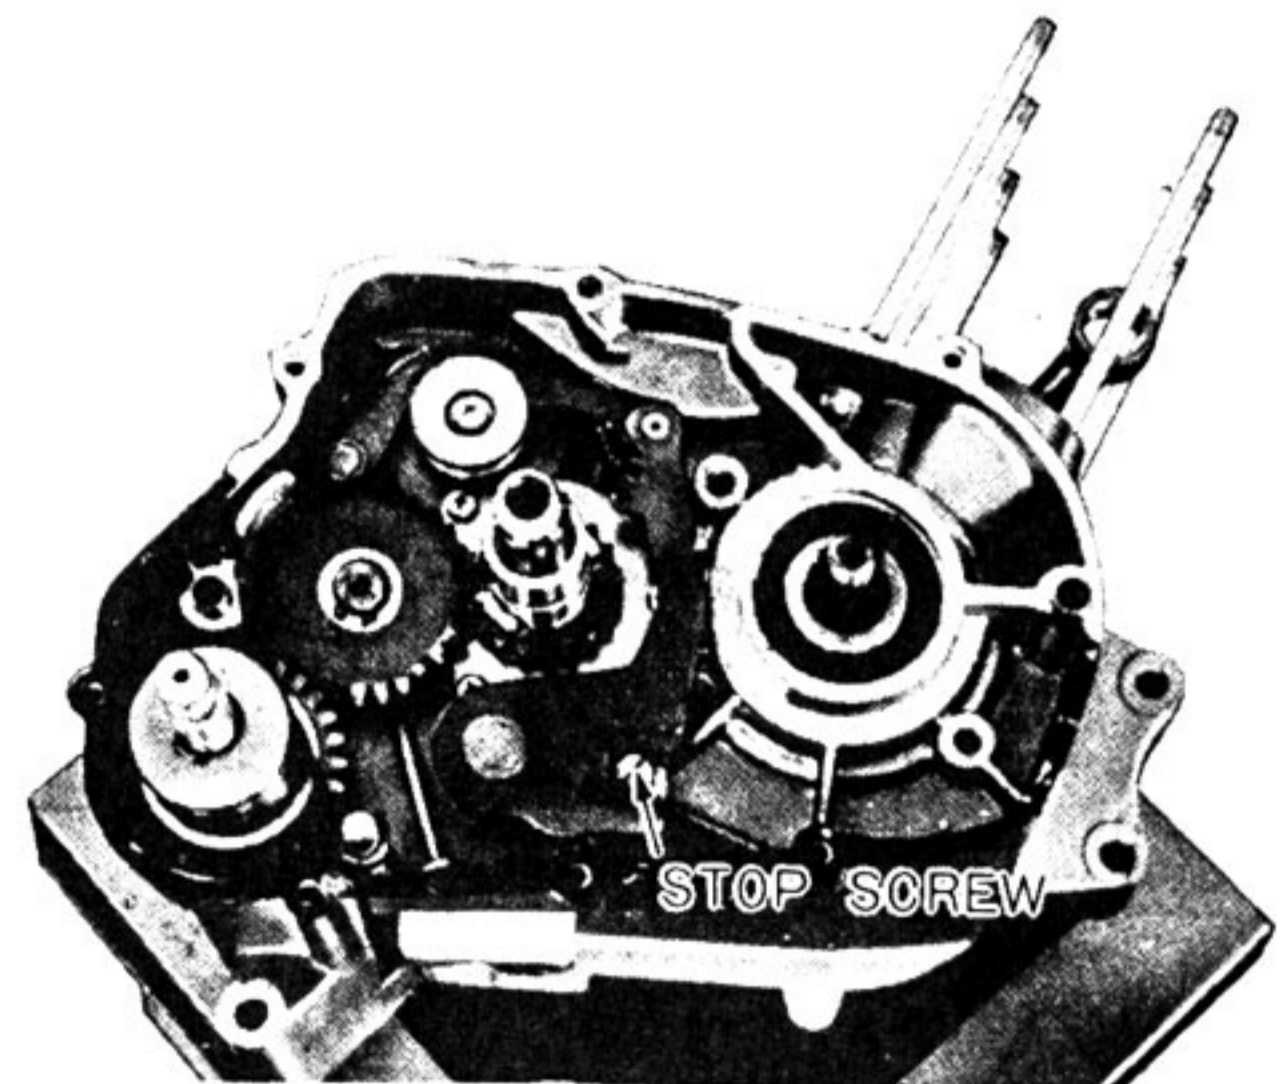

Fig. 4-15-1
- a. Remove the pan head screws on the left side crankcase. (Fig. 4-15-1)